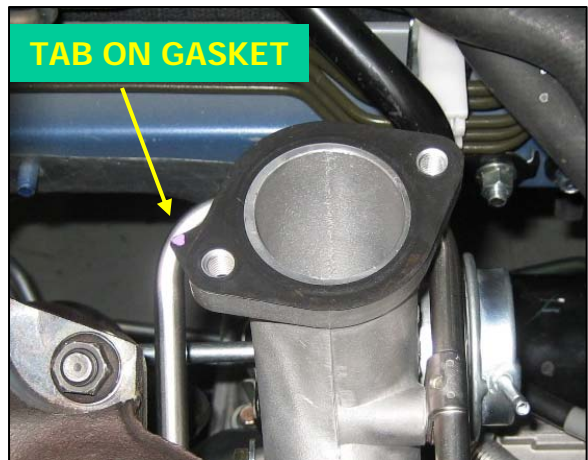

Fig. 11
- 12. Remove the black metal compressor outlet elbow and its gasket, noting orientation of the gasket. These parts will be reused (2 bolts, 12mm socket). See *Fig. 11*.